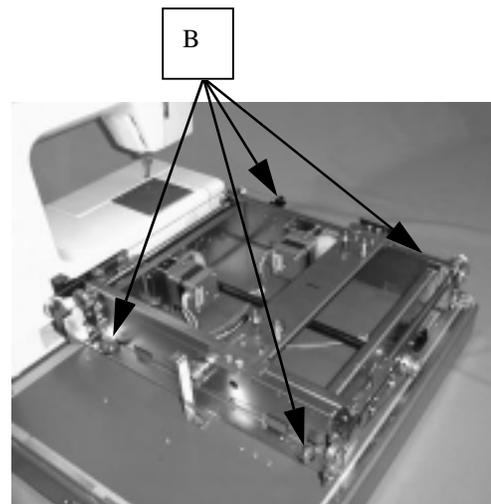

FIGURE 8-3
4. Remove setscrews(B), and then, remove the X-Y mechanism from the baseplate. Fig.8-3